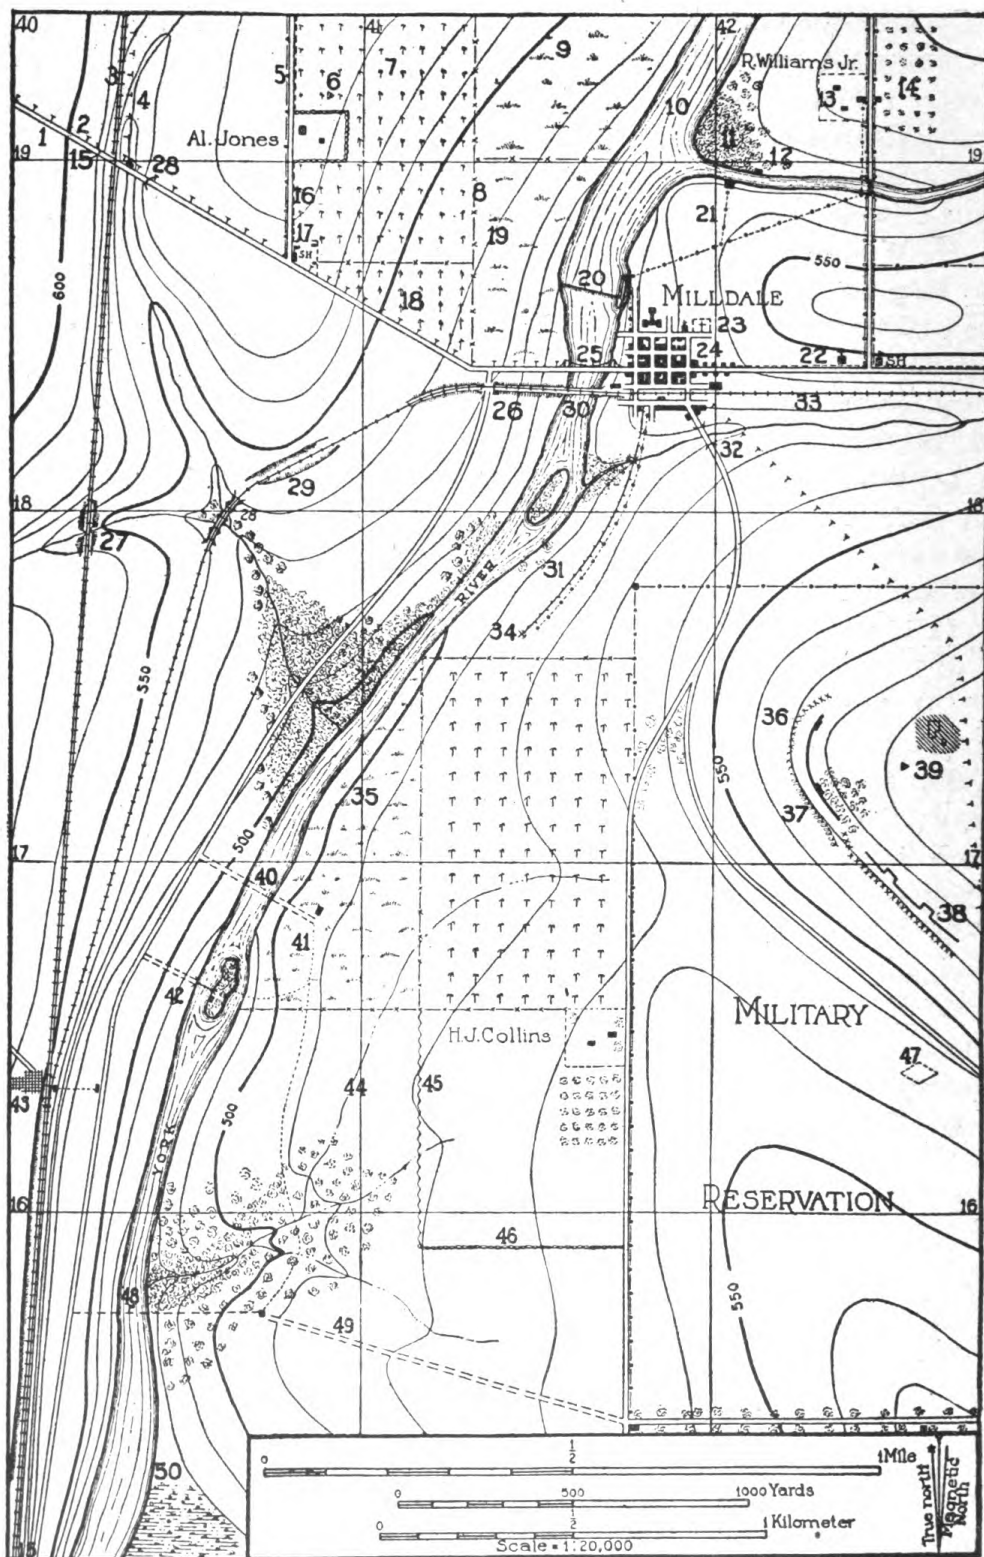

FIGURE 142.—Conventional signs.
Q. Point out and name the conventional signs shown in figure 142.
A. See figure 142.
- (1) *Black*.—All artificial features, such as houses and roads.
- (2) *Blue*.—All water, such as streams, ponds, lakes.
- (3) *Green*.—Vegetation, such as woods and grassland.
- (4) *Brown*.—The ground forms as shown by contours.